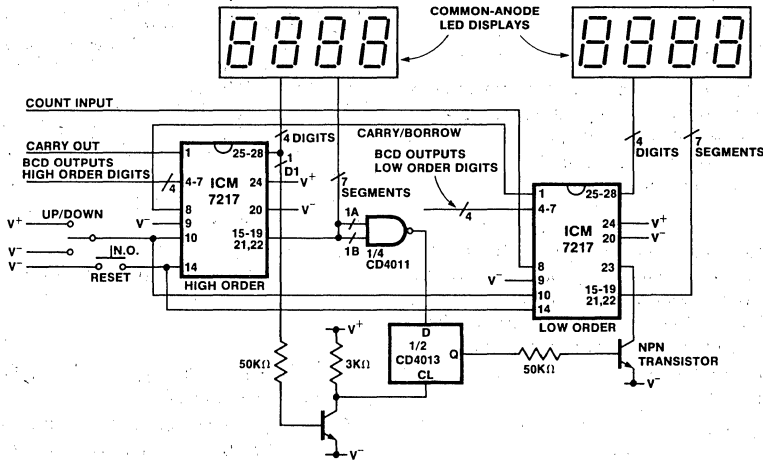

Figure 9: 8 Digit Up/Down Counter
4. 8-DIGIT UP/DOWN COUNTER (Figure 9)